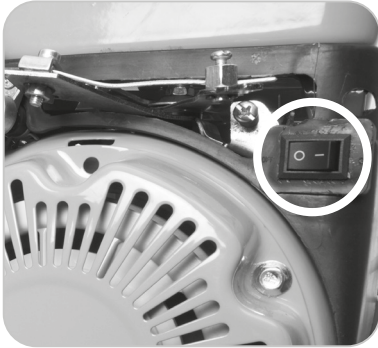

Fig. 8
- Press the engine ignition rocker switch to the 'ON' (I) position. **(Fig. 8)**